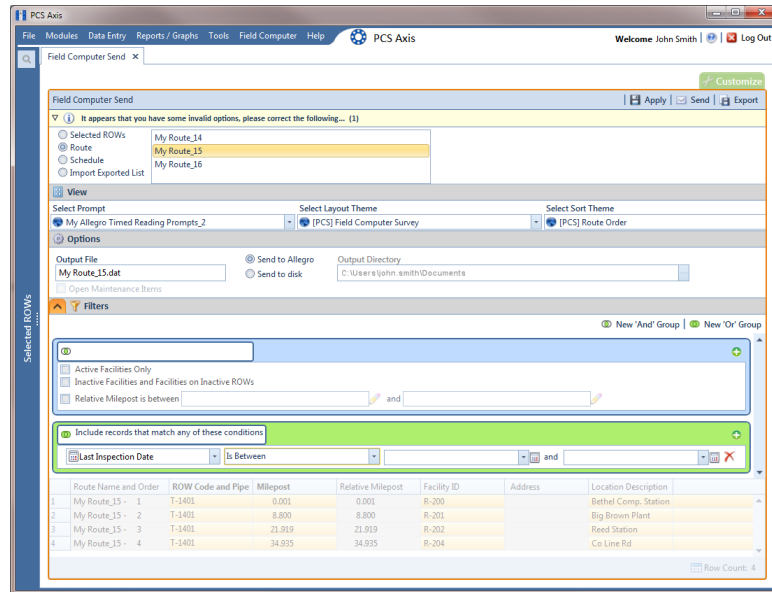

Figure 8-30. New 'Or' Filter Group
- a** Click  **New 'Or' Group** to open a filter properties group box (Figure 8-30).